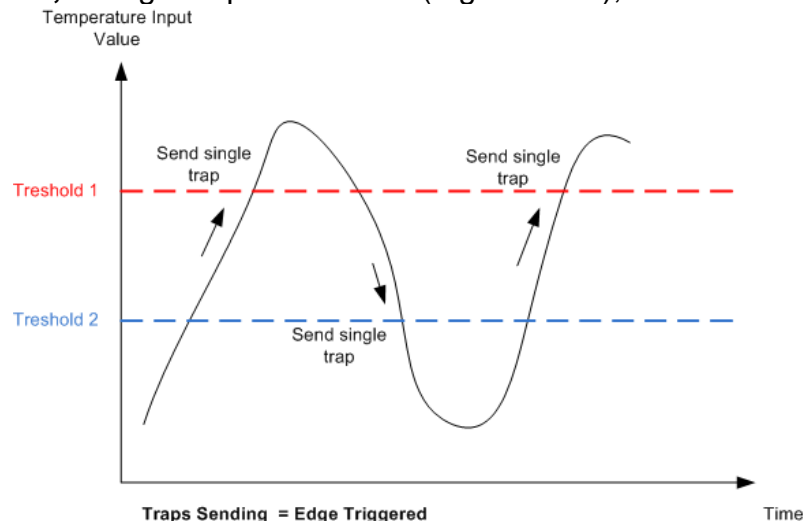

Figure 7.25. Sending tarps with **Traps Sending** = "Edge Triggered"
- If **Traps Sending** parameter from web page "**SNMP Traps Settings**" is set to "**Edge Triggered**" and if the rising Temperature Input value the **High Threshold** or the falling Temperature Input value crosses the **Low Threshold**, a single trap will be sent (Figure. 7.25);